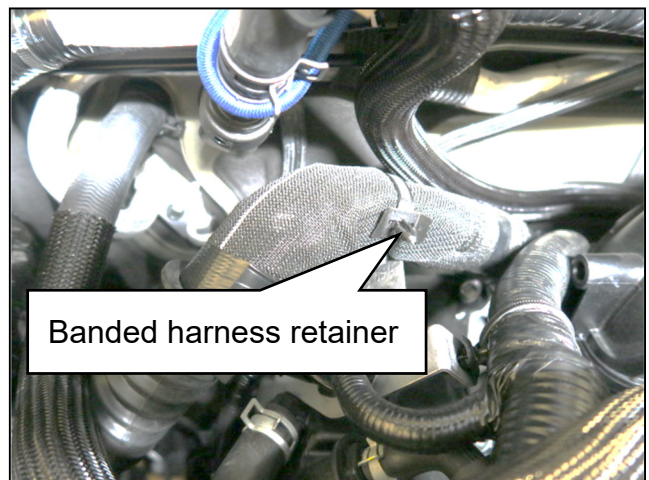

Figure 11
9. Using a suitable tool, remove and discard the banded harness retainer shown in Figure 11.